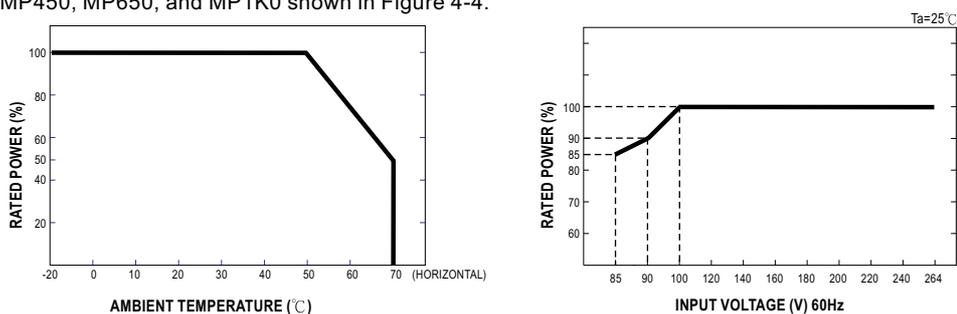

Figure 4-4 Output derating curves for Modular Series
- ⊙ Output load derating is required for proper operation in high ambient temperature or at low AC input. Please refer to the output derating curves of MP450, MP650, and MP1K0 shown in Figure 4-4.